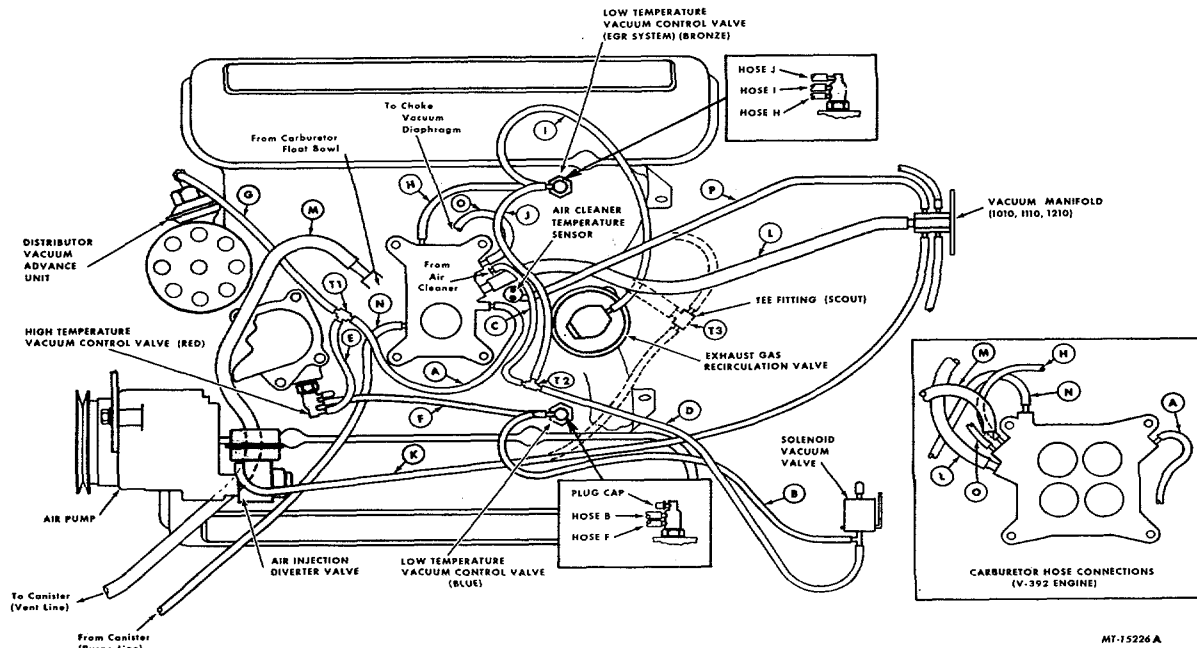

Fig. 159 Vacuum Hose Location--for 1010, 1110, 1110 4x4, 1210, 1210 4x4 Travelall and Scout II
73. Connect all vacuum hoses previously removed from the various components on engine. Refer to Figs. 159, 160 and 161 for proper vacuum hose location.
Legend for Fig. 159